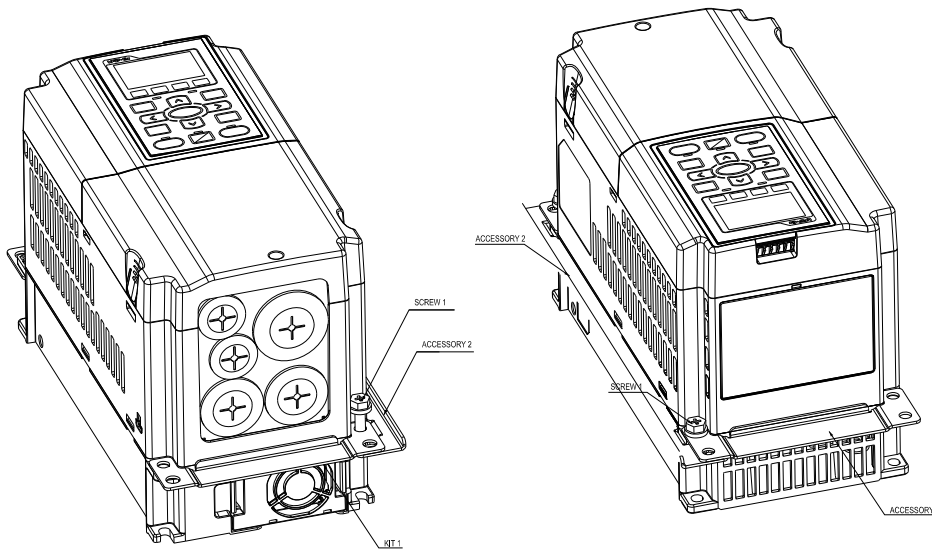

Figure 1
1. Fasten screw*2 (M6) and accessory 2 & 3. Screw torque: 25~30 kg-cm / [21.7~26 lb-in.] / [2.5~2.9 Nm] (figure 1)